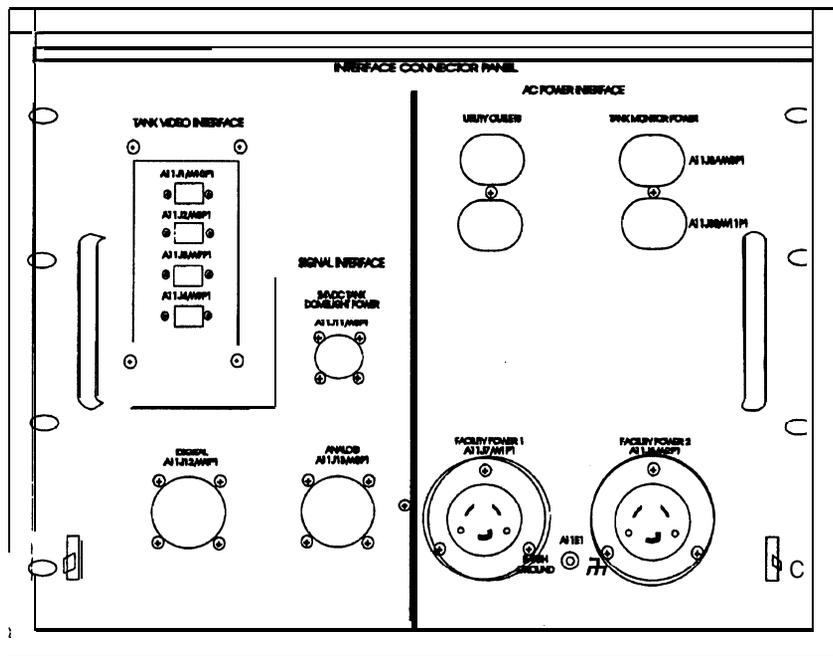

Figure 2-37. TD 17/162A IOS Interface Connector Panel
- a. Position cable and connect W6P1 (the end with the large plug) to the 24VDC TANK DOMELIGHT POWER receptacle on the IOS Interface Connector Panel. (Refer to Figure 2-37 and 2-37a.)